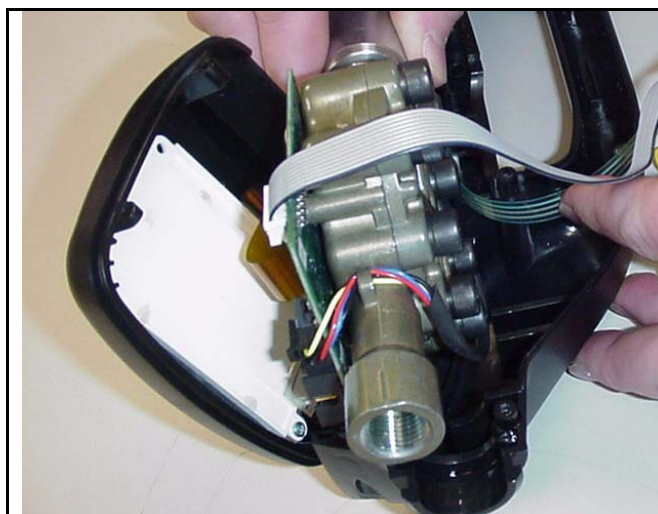

FIG. 37
16. Make sure that all other meter parts are positioned securely and in the correct location. See FIG. 37.